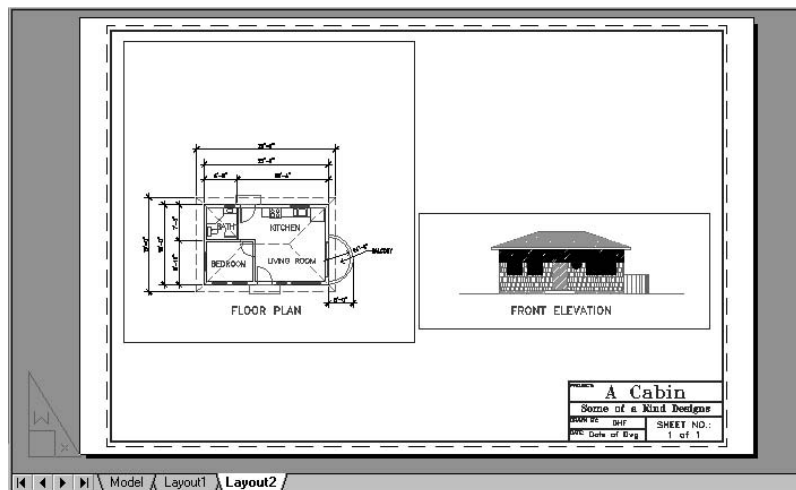

FIGURE 13.15: The right viewport showing only the front elevation after adjustments
5. Click the lower-right grip. Move it up slightly so that the top of the note text in the lower-left corner of the viewport is no longer visible, and then click. Press Esc. Now the right viewport displays only the front elevation (see Figure 13.15).